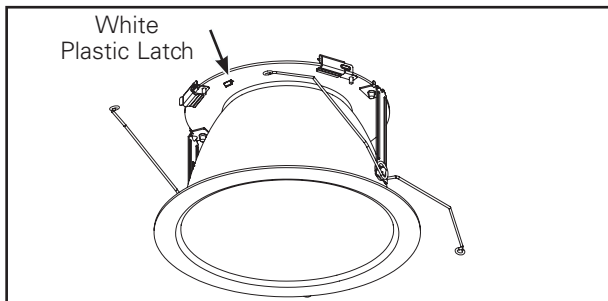
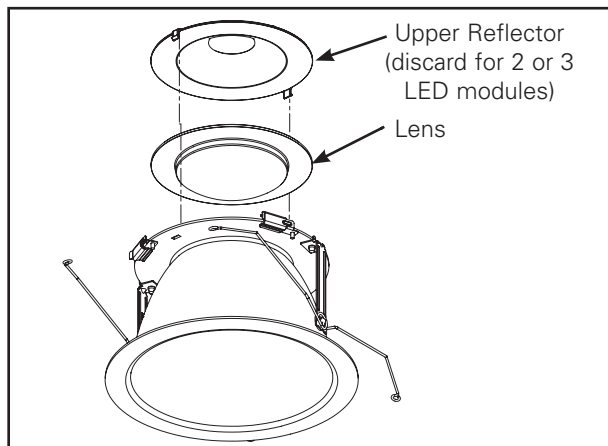

Figure 12
Figure 13
4. If the LED modules has 2 or 3 LEDs, gently remove the upper reflector by disengaging the white plastic latches (Figure 12. & Figure 13.) and discard it. Retain the upper reflector on the trim for 1LED modules.
1. Press in on white plastic latch to remove upper reflector and clean lens. (Figure 12 & 13.)